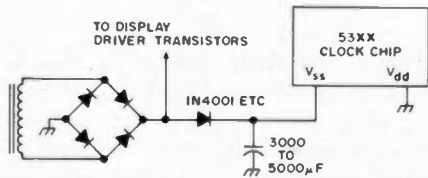

Fig. 3. Capacitor backup for short-term memory protection.
rectified ac power source and is switched on by diode D1 upon failure of the ac power. Note also the use of diode D2 which isolates the display power from the battery. If this diode is not installed, the battery will be quickly discharged by the display current drain. In Fig. 2(b), a method is shown which will keep the rechargeable nicad battery on trickle-charge from the ac power source. Solution (3) is one of the best solutions to the problem that I've found. Most power failures are of a momentary nature (less than 2 — 3 seconds) in areas where I've lived, and these are the most frustrating for clock owners. In some cases, the failure is not even noticed, yet the clock's memory is destroyed and the clock must be reset. To overcome this problem, I now use the circuit in Fig. 3. Notice that the only addition to the standard clock circuit is one diode. This diode acts as a switch. During normal ac operation, the switch is